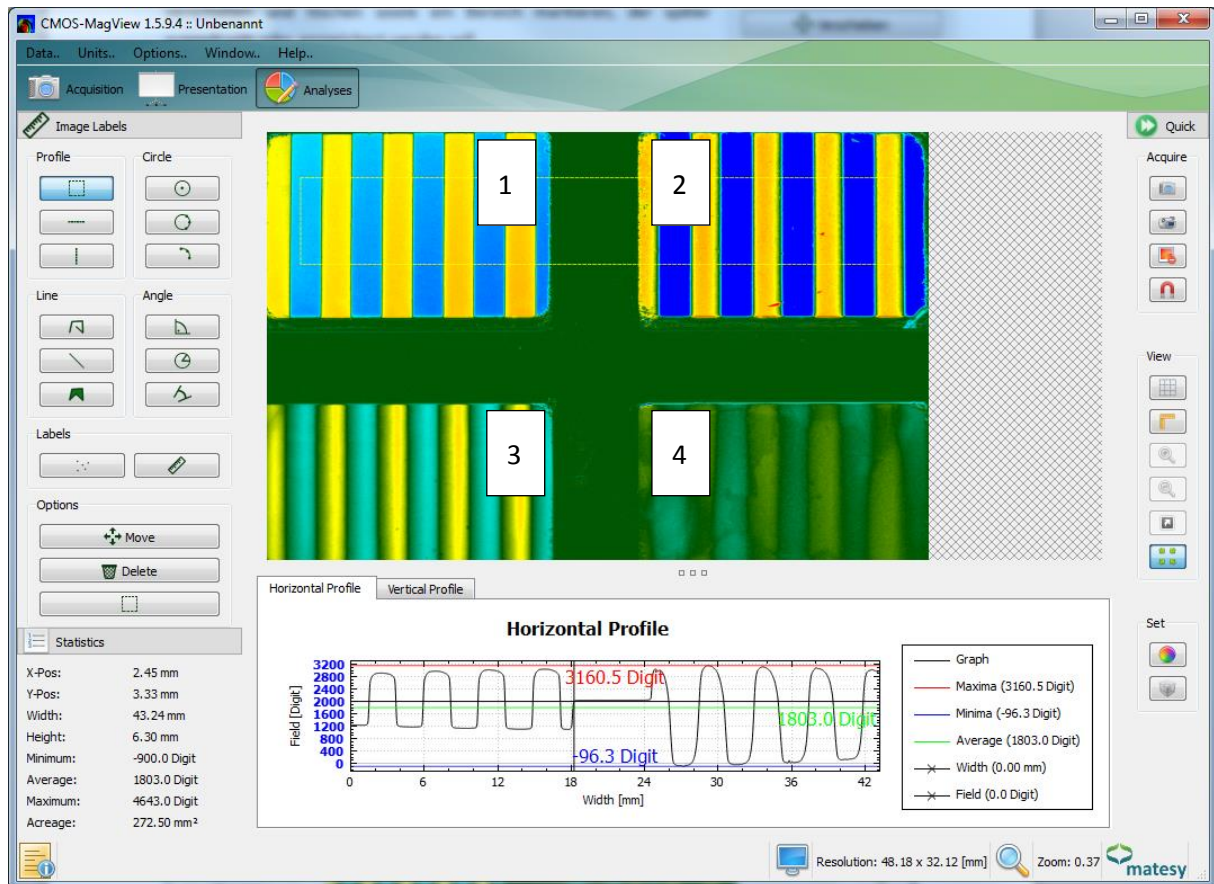
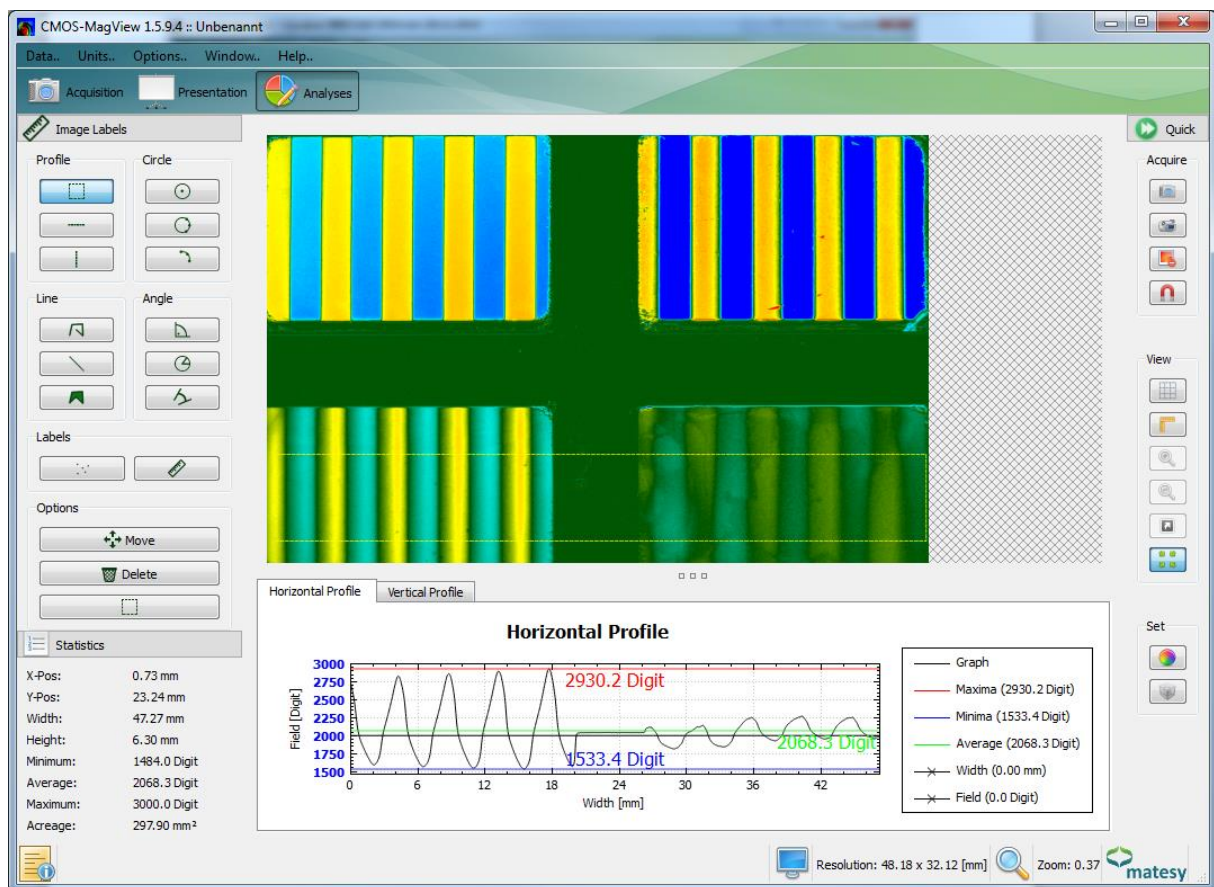

Figure 43: Linear scale on four different sensors.
Figure 44: Linear scale with the display of the B- and C-sensors in the chart.
The following Figure 43 and Figure 44 show a linear scale on four different sensors. Possible types sensor types: (1) D-sensor without bias field, (2) A-sensor, (3) B-sensor, and (4) C-sensor.